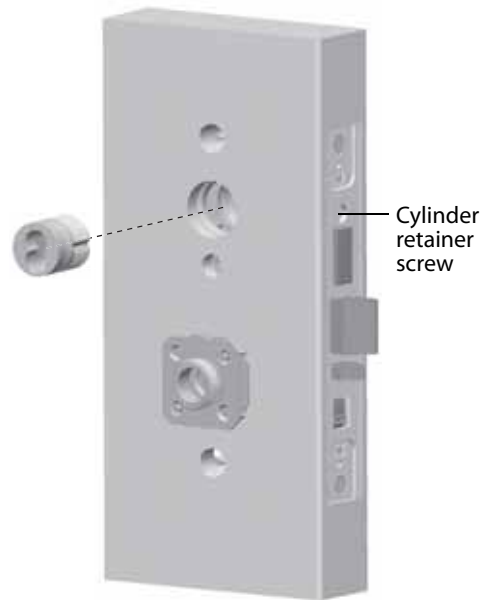

Figure 8 Installing the concealed cylinder
- 1 Use a cylinder wrench to thread the cylinder into the mortise case so that the groove around the cylinder is even with the door surface as shown in Figure 8.
- 3 Insert the control key into the core and rotate the key 15 degrees to the right.
- 5 Rotate the control key 15 degrees to the left and withdraw the key.